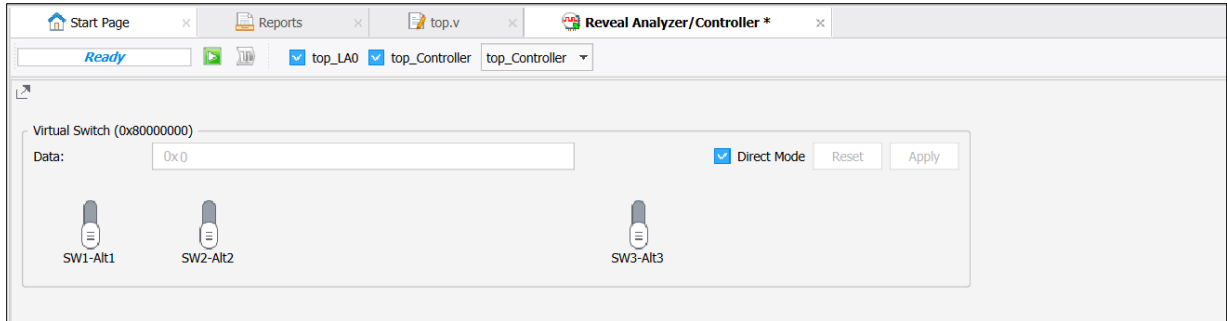

Figure 7.5. Toggle Switches in Reveal Controller
3. Toggle the switches in Reveal Controller to reboot/reconfigure the device with the desired image. Check the Direct Mode box before toggling the switches (Figure 7.5).